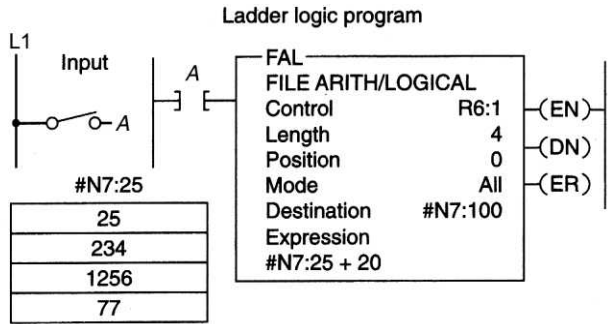

Figure 11-27 Program for question 22.
22. With reference to the program of Figure 11-27, when the input goes true, determine the value that will be stored in each of the following words.